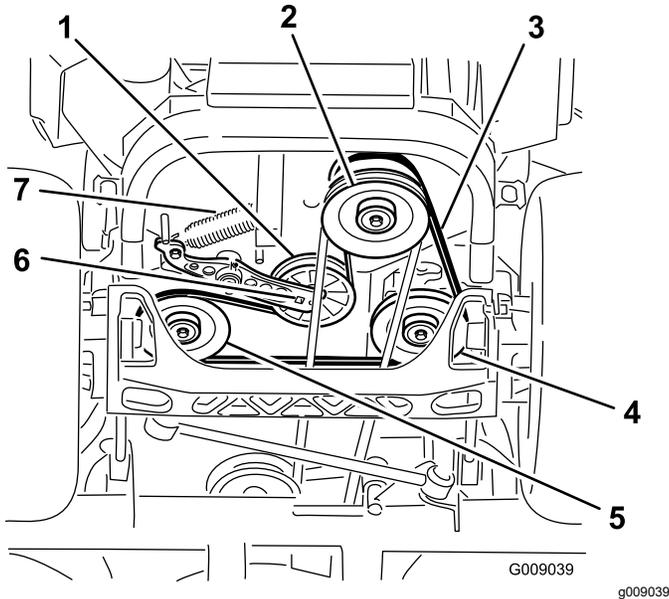

Figure 89
4. Raise the machine and support it with jack stands (Figure 89).
5. Use a ratchet in the square hole in the idler arm to remove the idler spring (Figure 89).
6. Unhook the idler spring from the frame (Figure 89).
9. Using a ratchet in the square hole in the idler arm, install the idler spring to the frame (Figure 89).